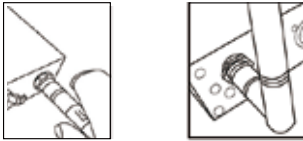

Fig.3a
1. Install the two antennas on the rear panel as shown in Fig.3a.